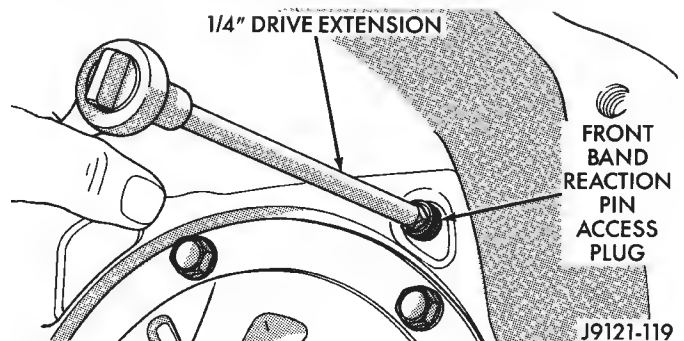

Fig. 9 Removing/Installing Front Band Pivot Pin Access Plug
(11) Connect transmission cooler lines to fittings. Refer to Figure 9 for cooler line identification.
(13) Remove front band pivot pin access plug (Fig. 9). Plug is accessible through converter housing. Use 1/4 inch drive extension to remove plug as shown.